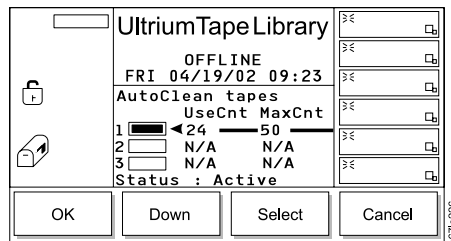

Figure 178. Export Cleaning Tape Dialog
4. Press the button below the **Export** softkey. The Export Cleaning Tape Dialog displays (see Figure 178).